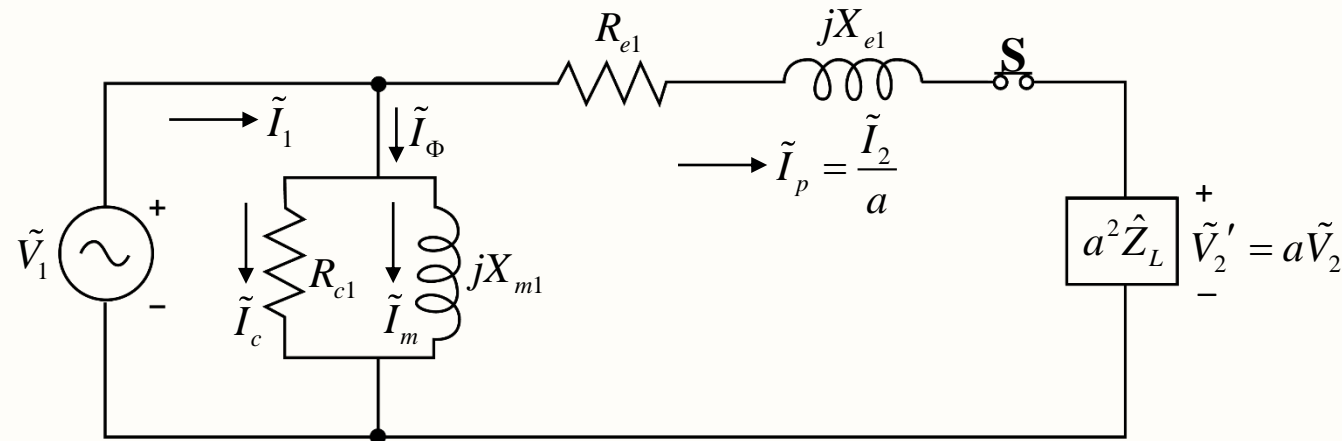

Fig. 29. Approximate equivalent circuit referred to the primary.
- This is equivalent to the use of the approximate equivalent circuit referred to the primary side, as shown in Fig. 29.